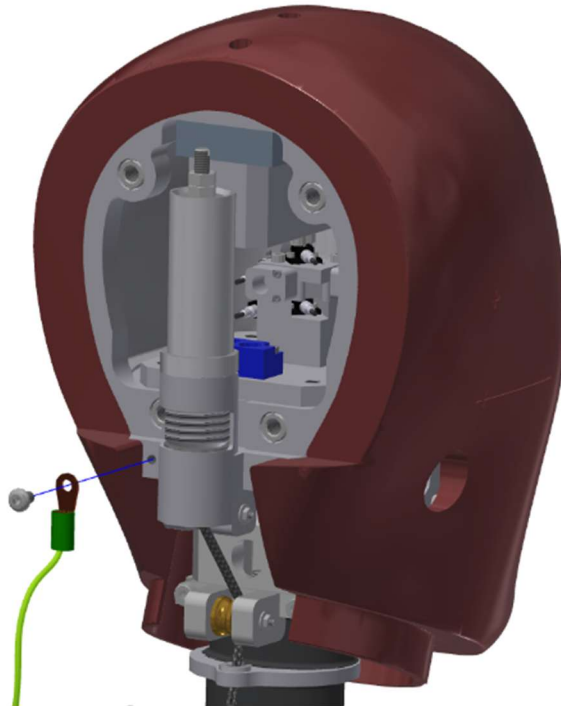

Figure 3-3. Head ground strap location
- 3.2.2 Remove the ground strap from the back of the head by removing one M4 X 0.7 X 6 BHCS (Figure 3-3).